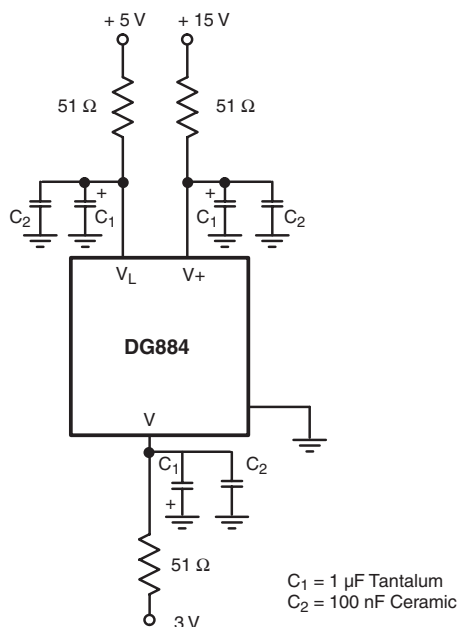

Figure 14. DG884 Power Supply Decoupling
- 4) Additional high frequency protection may be provided by 51 Ω carbon film resistors connected in series with the power supply pins (see Figure 14).